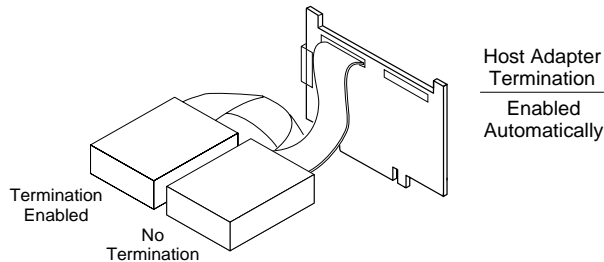

Figure 2-12. Internal Devices on SCSI Channel A
- If you attach SCSI devices to only one of the two Channel A connectors, as shown in Figure 2-12, host adapter termination